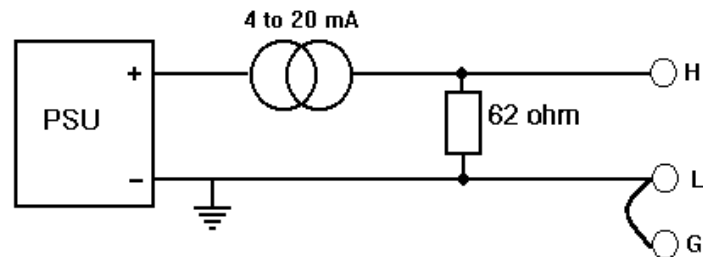

FIGURE 6.7 3-POLE CURRENT CONNECTION
1. If the power source is earthed, the current source should be connected as shown in Figure 6.7.
2. If the power source is isolated, the transducer can be placed in either the high (H) or low (L) lead.
3. An analog module can be used to measure current if an external resistor is fitted as shown in Figure 6.7. The tolerance of this resistor determines the accuracy of the current measurement. The specification assumes a 0.1% or better resistor.
4. The guard terminal (G) should be linked to the low terminal (L).